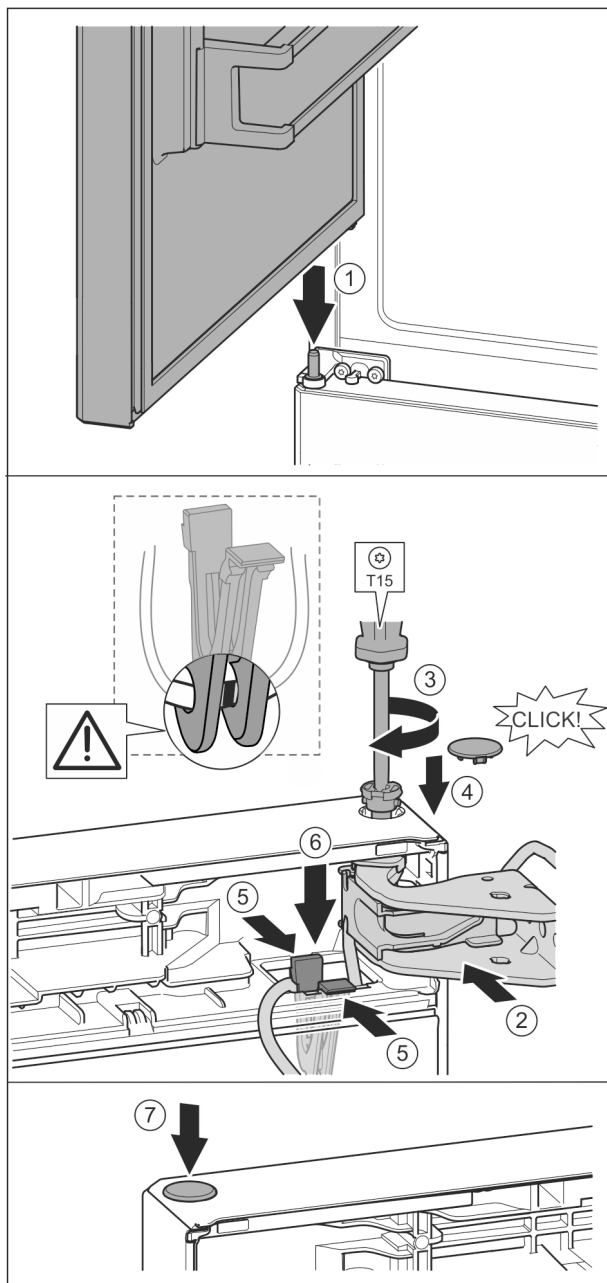

Fig. 36
- Place the upper door on the centre bearing pins Fig. 36 (1)
- Align the top of the door with opening in the bearing bracket. Fig. 36 (2)
- Insert the bolt and tighten with a T15 screwdriver. Fig. 36 (3)
- Fit the protective cover to protect the door: Insert the protective cover and check that it is attached to the door. If not, insert the bolt fully. Fig. 36 (4)
- Insert the holder with its cable into the opening. *Fig. 36 (5)*
- Press the holder downwards until the tab clicks into place. *Fig. 36 (6)*
- Insert the plugs. *Fig. 36 (7)*